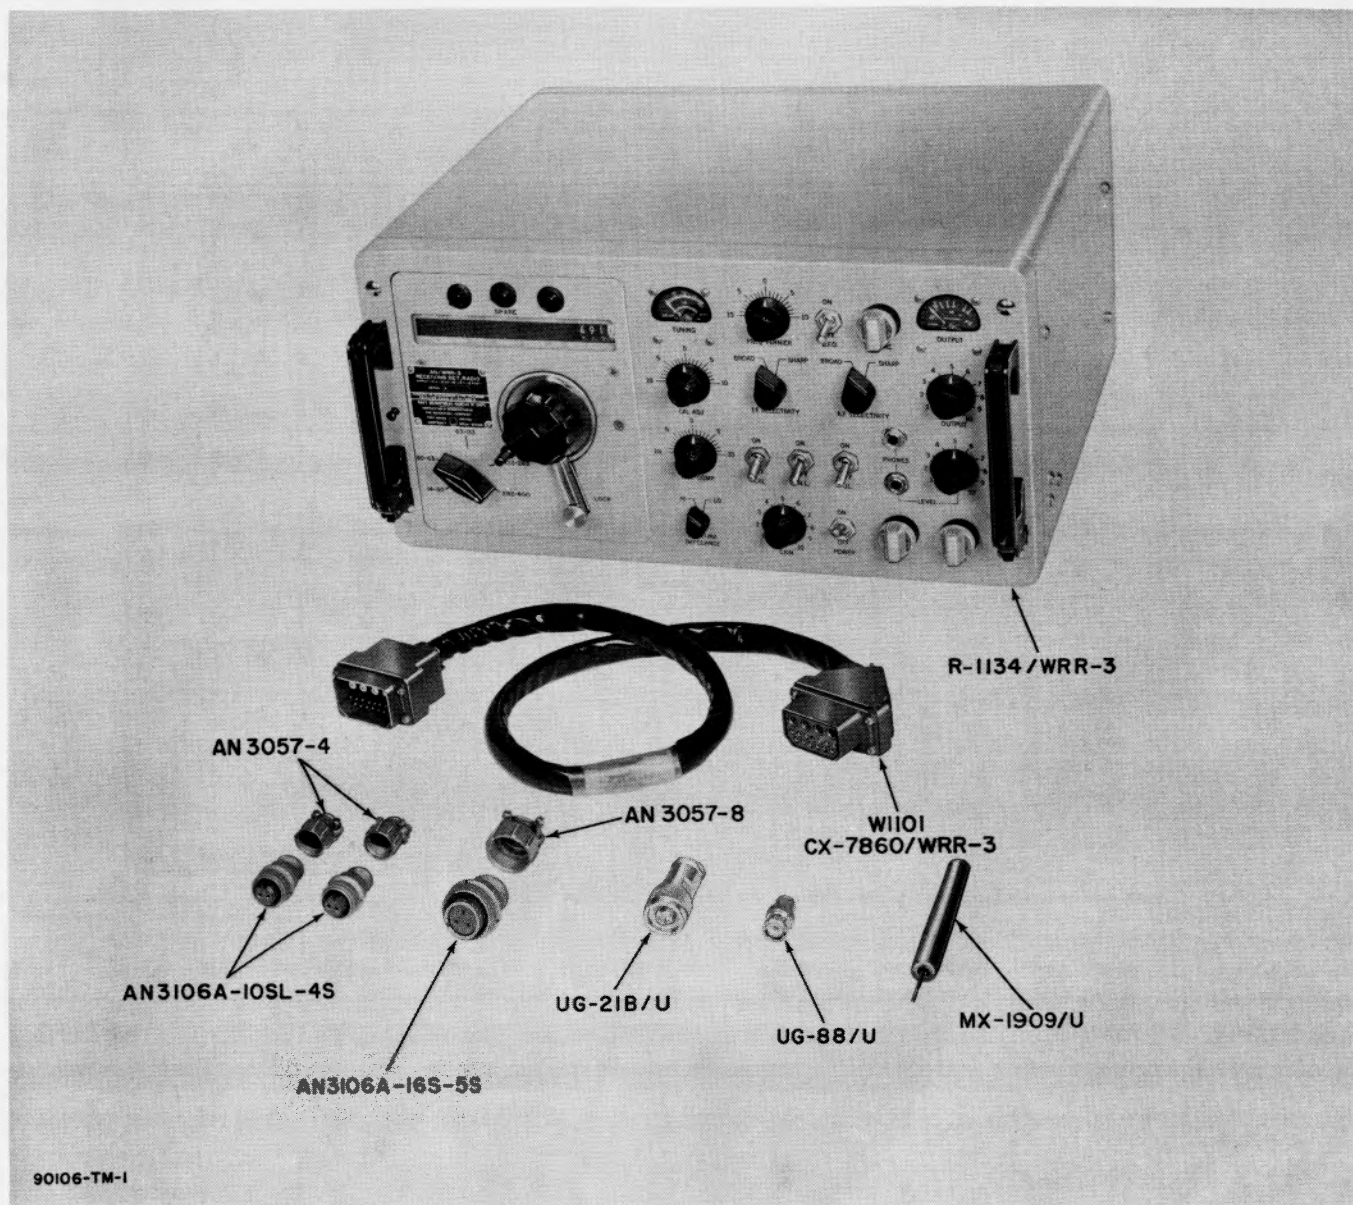

Figure 1-1. Radio Receiving Set AN/WRR-3
Radio Receiving Set AN/WRR-3 (see figure 1-1) is a dual conversion superheterodyne receiver for surface craft and submarine installation. It receives A1 (CW), A2 (MCW) and F1 (FSK) signals. The receiver has a